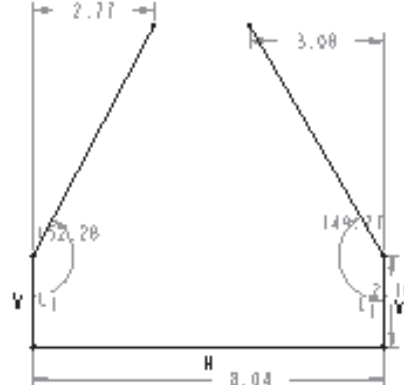
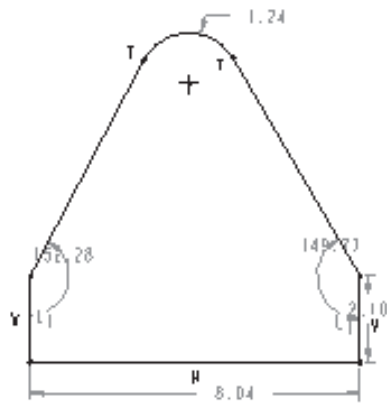

Figure 1-34 Partial sketch with weak dimensions
Figure 1-35 Sketch with arc
Figure 1-34 shows all the lines that you have drawn. Now, the arc and circle is will be drawn.
3. As the tangent constraint appears, use the left mouse button to end arc creation. You will notice that the tangent constraint with a symbol **T** appears at the end points of the arc as evident from Figure 1-35. Press the middle mouse button to end arc creation.
Note that in Figure 1-34 there are some weak dimensions that are not displayed in Figure 1-35. This is because the weak dimensions are deleted without confirming their deletion. Hence, after drawing the arc some weak dimensions got deleted automatically.